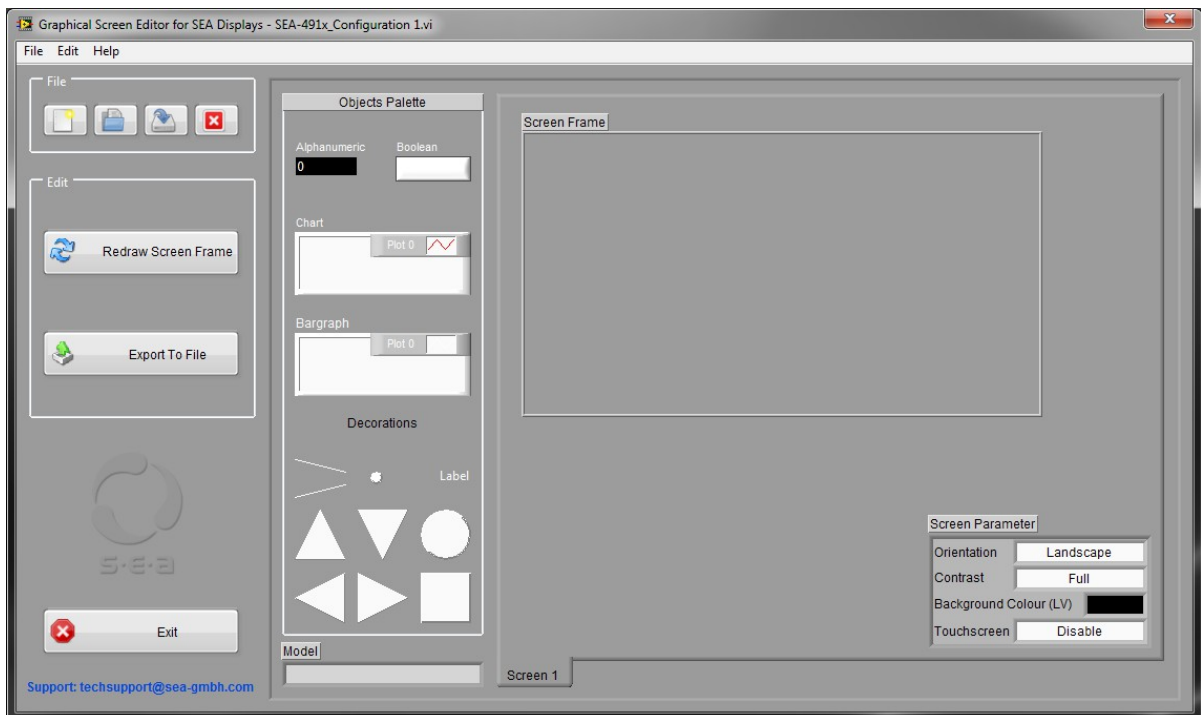

Fig. 2: Editor with Empty Configuration-VI
3. Create a new *Configuration-VI* pressing the *New* button or selecting the *New* menu item. A new *Configuration-VI* appears inside the editor like shown in Fig. 2. Note that the initially disabled functions had become enabled and can be applied on the fresh created *Configuration-VI*.